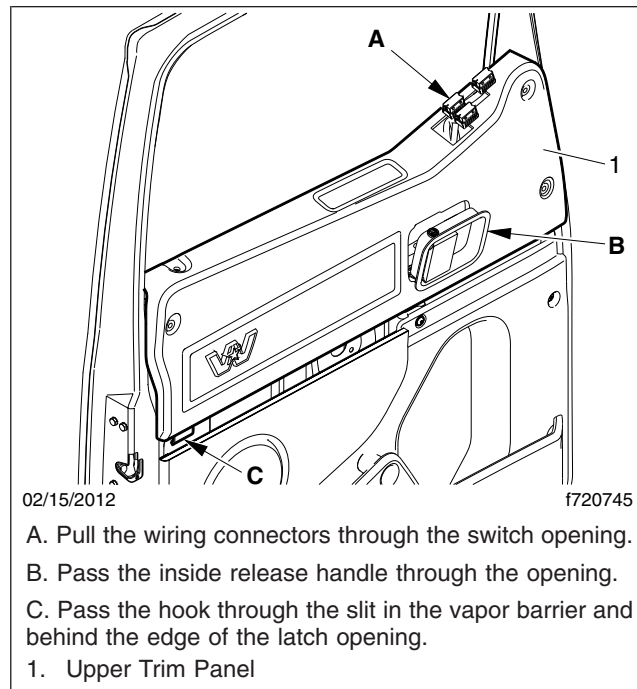

Fig. 15, Upper Trim Panel Installation
- 5.1 Pull the wiring connectors through the switch opening on top of the panel. See Fig. 15, Ref. A.
- 5.2 Set the upper panel against the door, rotating it to allow the interior release handle to pass through the opening. See Fig. 15, Ref. B.
- 5.3 Position the hook at the lower rear corner of the panel behind the upholstery panel. Maneuver the hook through the slit in the vapor barrier and behind the edge of the latch opening. See Fig. 15, Ref. C.